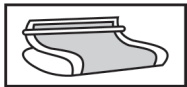

Figure 5-1
a.Pull the cuff through the metal loop (See Figure 5-1 ). Slide your bare arm through the cuff and tighten it securely. Close the velcro to fasten the cuff in place.